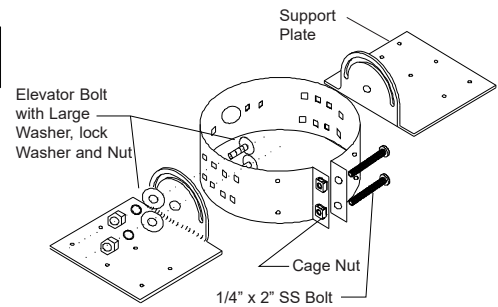

Figure 50
2. Form the Band into a circle and loosely connect both tabs using the supplied 2" bolts into the 2 cage nuts (see Figure 50).